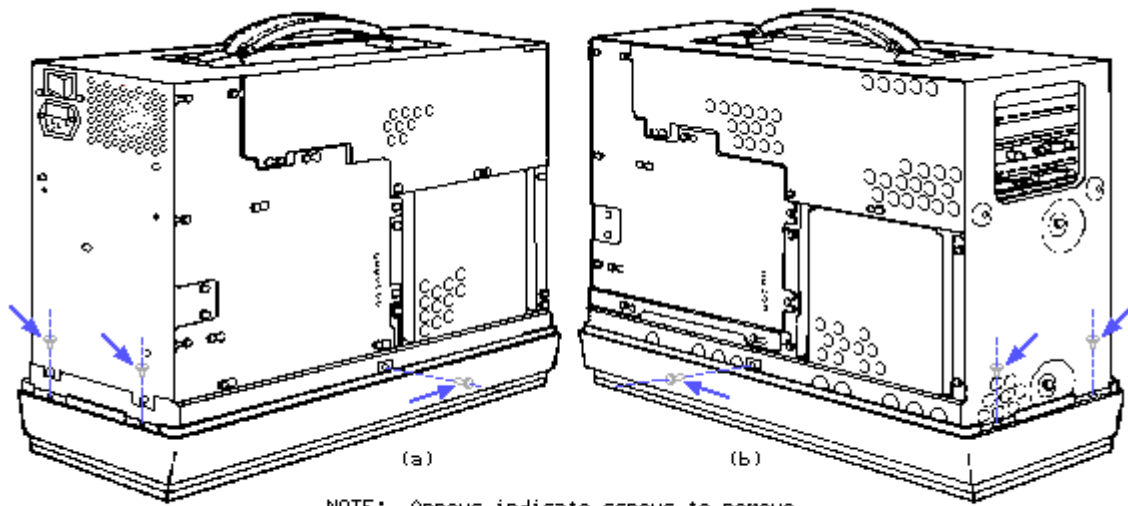

Figure 7-14. Removing the Six Front Bezel Mounting Screws
4. Using a Torx screwdriver, remove the six screws that secure the front bezel to the system chassis (Figure 7-14).